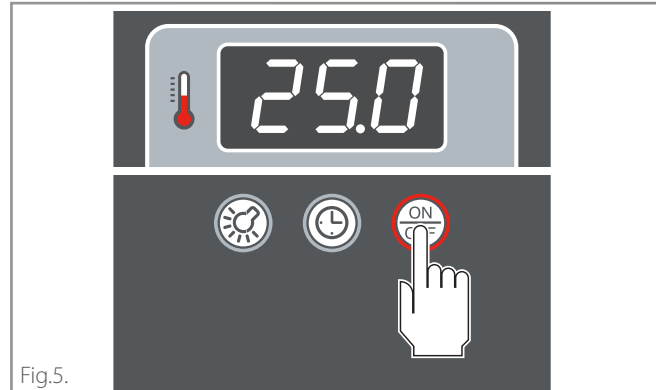

Fig.5.
See ▶ chapter "**Manual switch-on**" on page 10 and ▶ **Fig.5.**
▶ **Fig.5.**